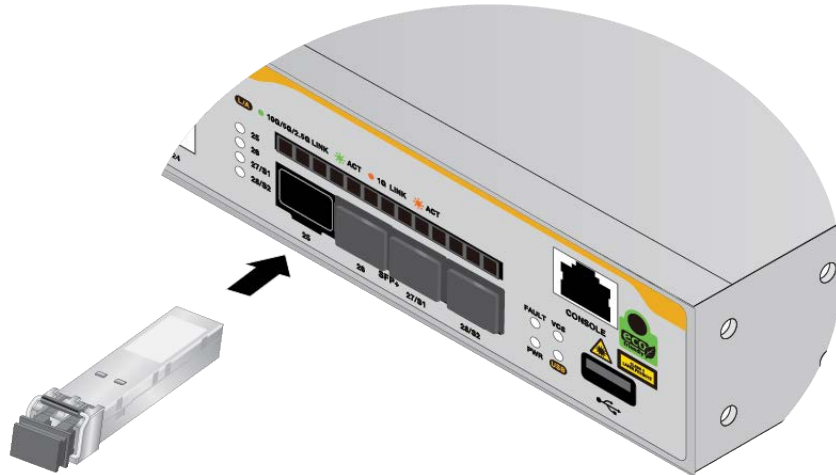

Figure 44. Installing SFP+ Transceivers
4. Slide the transceiver into the port until it clicks into place, as shown in Figure 44 on page 118.